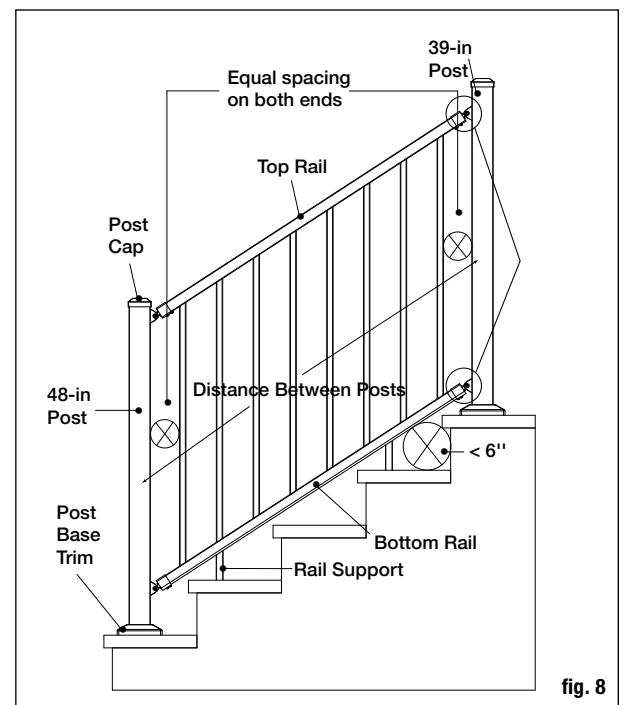

fig. 8
- Ensure post location is compatible with railing, prior to securing to the deck, place both posts in position, and lay the bottom rail along the stair nosing from top to bottom adjacent to both posts. On the rail side of the post, measure up from the top of the rail and ensure there is a minimum of 34" to the top of the post. Post location may need to be adjusted to ensure minimum is obtained. Repeat this step for the bottom post. Note: when installed, the rail must not allow a 6 inch sphere to be passed between the tread, riser, and rail as depicted in fig. 8.
Step 2: Measure the distance between installed posts (parallel to the stair angle) to determine the length of the top and bottom rails. Position the railing on the stairs on top of a spacer block along the stair's nosing. Ensure the balusters are plumb. The distance between the post and the first baluster should be less than 4" and equal on both ends. Once the railing is in position, clamp the railing to the posts. **(See fig. 8)**